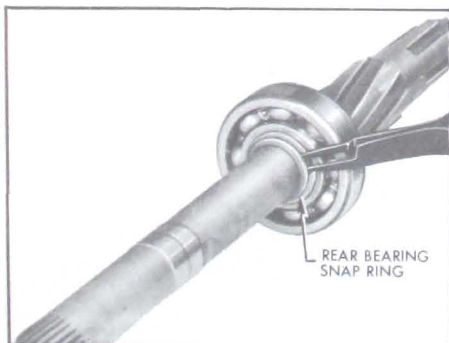

Figure 4-90—Removing Rear Bearing Snap Ring
29. Remove the mainshaft rear snap ring. See Figure 4-90.